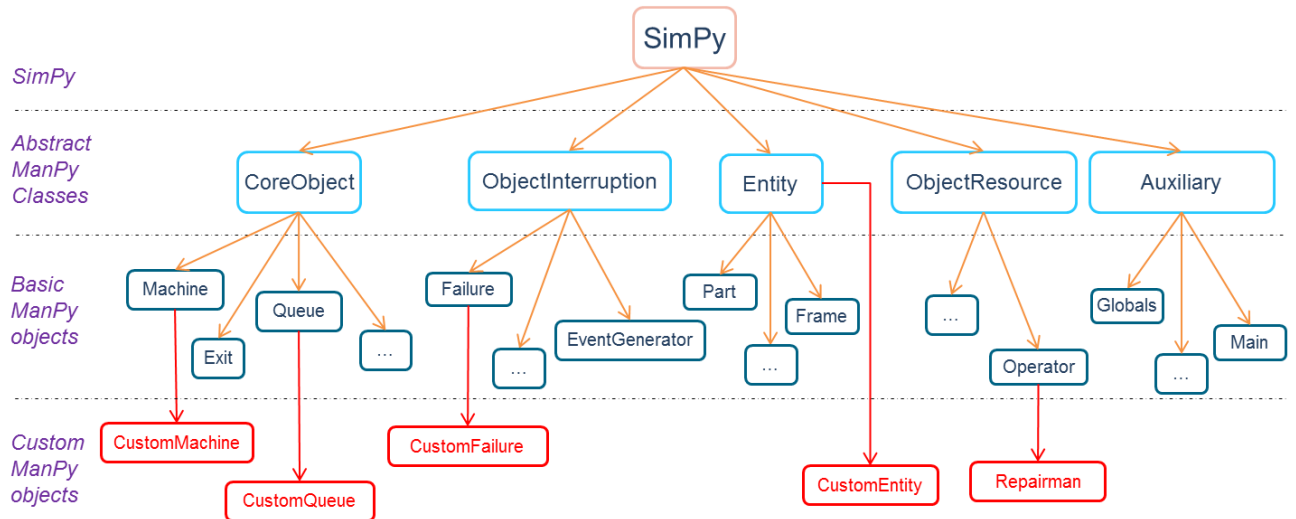

Figure 1: The ManPy class hierarchy
ManPy objects are written exclusively in Python and they use methods of SimPy. Figure 1 shows the current state of the architecture.
In Figure 1 four different layers are depicted:
- **Auxiliary:** These are auxiliary classes that are needed for different simulation functionalities. Unlike the other categories described here, auxiliary classes do not inherit from one parent class, even though it is depicted in such a way in Figure 1 for reasons of coherence.